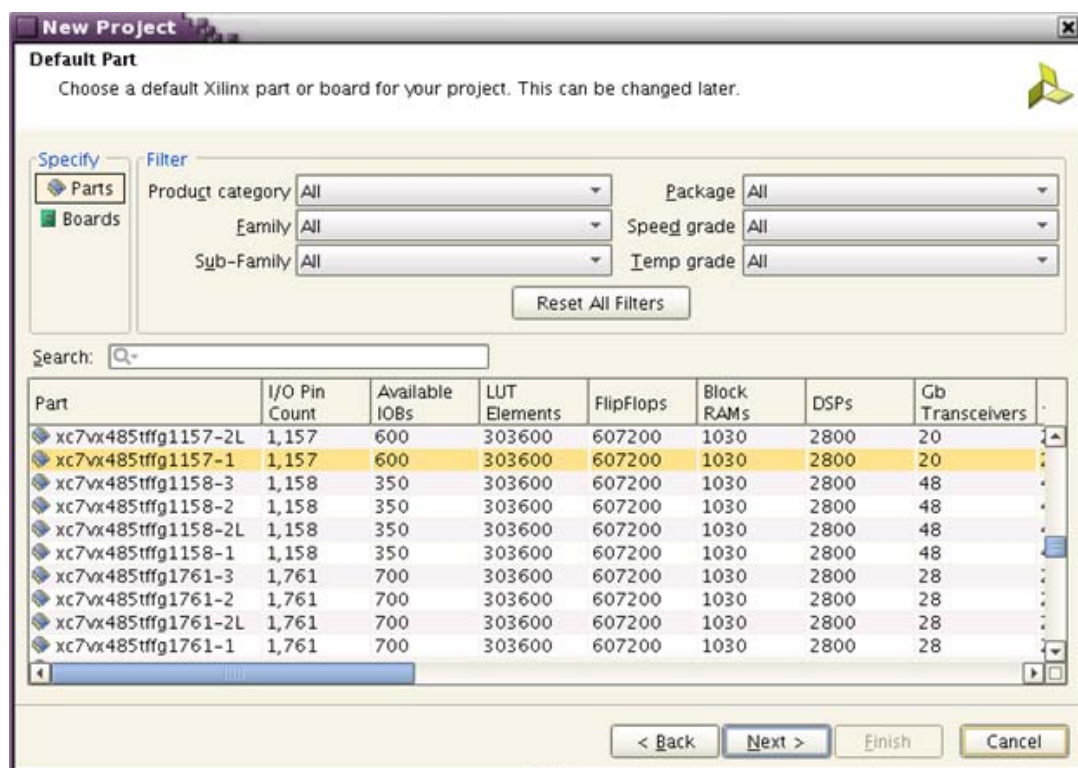

Figure 4: New Project Window: Default Part
13. Keep the part selected within the Vivado Design Suite, and click **Next** in the Default Part window (Figure 4).